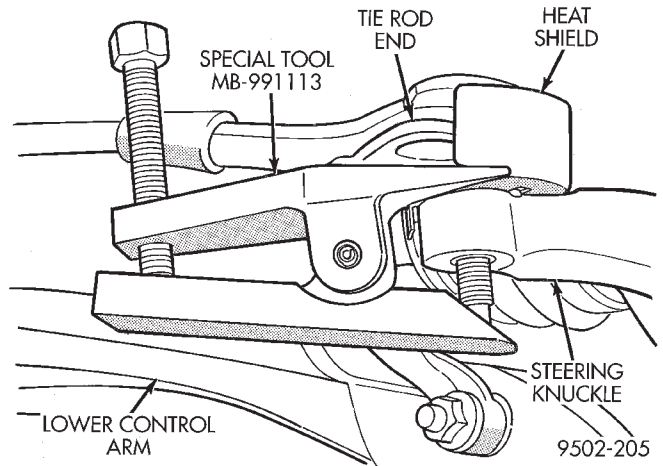

Fig. 37 Tie Rod End Removal From Steering Knuckle
(11) Remove the tie rod end from steering knuckle arm, using Remover, Special Tool MB-991113 (Fig. 37).